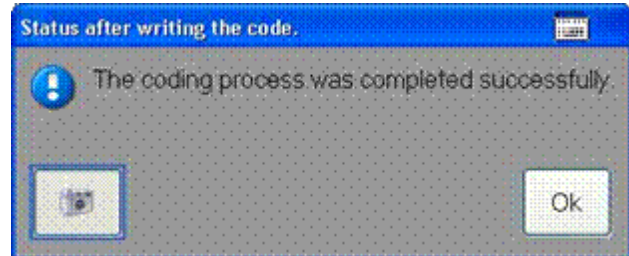

Figure 6. Successful coding confirmation window.
6. After the code is written, a window appears to confirm that the coding process was completed successfully (Figure 6). Click **OK** to close the window.